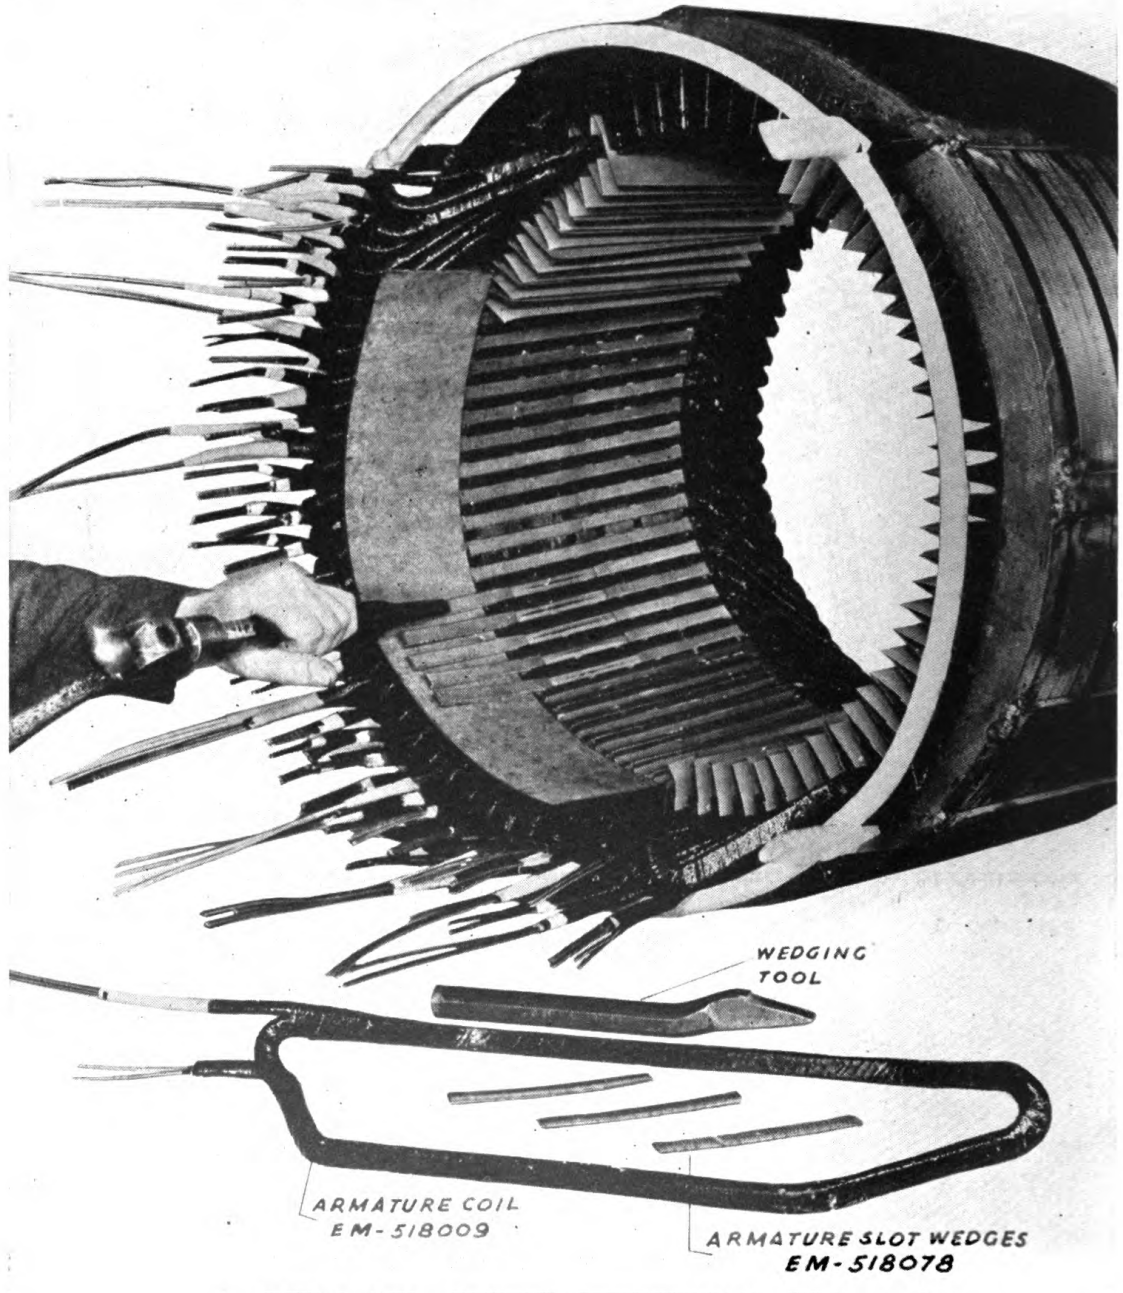

FIG. 13—Generator Armature Coil Assembly Procedure
- Figure 13 Generator armature coil assembly procedure.